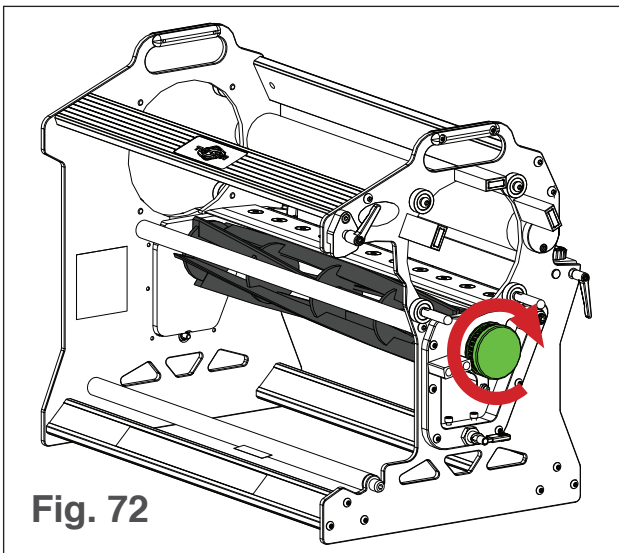

Fig. 72
3. Manually spin the blade pulley (see Fig. 72) and ensure a smooth rotation of the helix blade.